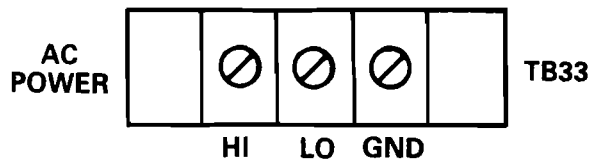

Figure 3.4.1 AC Power Connections
**Power Connections:** The 3B Series Subsystem can operate from an ac power supply, a dc/dc power supply or an externally provided  $\pm 15V$  and  $+24V$  supply. If an ac power (i.e. AC1300, AC1301) is used, it should be secured to the backplane with the retainer clip or holddown screws as discussed in Section 3.3. The input wiring is connected to TB33 as indicated in Figure 3.4.1. The wiring of the ac power connector is most readily accomplished by removing the two corner screws that secure the yellow safety cover to the connector. This enables the cover to be easily removed so that the ac terminals are accessible.